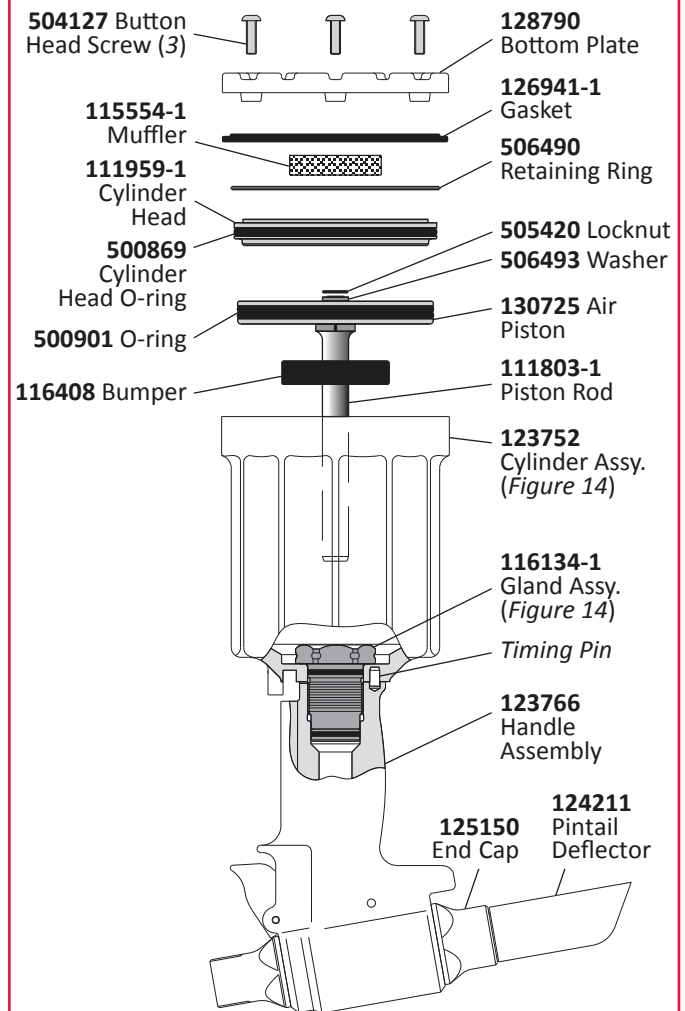

FIGURE 2
4. Models **202** & **202L**: Pull pintail deflector off the end cap. (Figure 2)
6. Secure the tool in a vise, upside-down. (Figure 2) Remove button-head screws with a 1/8" hex key. Remove end cap and gasket, and remove muffler from the end cap. Remove spring from the throttle valve. (Figure 14)
7. Tap down cylinder head with a soft mallet (to take pressure off the ring), and remove retaining ring. (Figure 2)
11. Remove retaining ring from gland, and then pull out spacer and Polyseal. (Figure 2) Remove O-rings, Quad-ring, and Back-up ring.
12. Lift cylinder from handle/head. (Figure 2)
14. Remove throttle valve from air cylinder, and remove O-rings. (Figure 2)
This procedure is applicable to **all 202** series tools. For component identification, see Figures 2, 7, 14, & 15.
1. Secure head/handle upside-down in a soft-jaw vise. (Figure 2) Place inverted cylinder assembly on the base of the handle. (The timing pin maintains orientation.)
7. Position muffler in center of cylinder head. Position gasket on the cylinder. (Figure 2) Note the direction of the lip in Figure 7.
NOTE: Make sure that the muffler is properly positioned in the recess of the bottom plate. (Figures 2 & 14)
9. Secure the bottom plate with three button-head screws using a 1/8" hex key. (Figure 2)